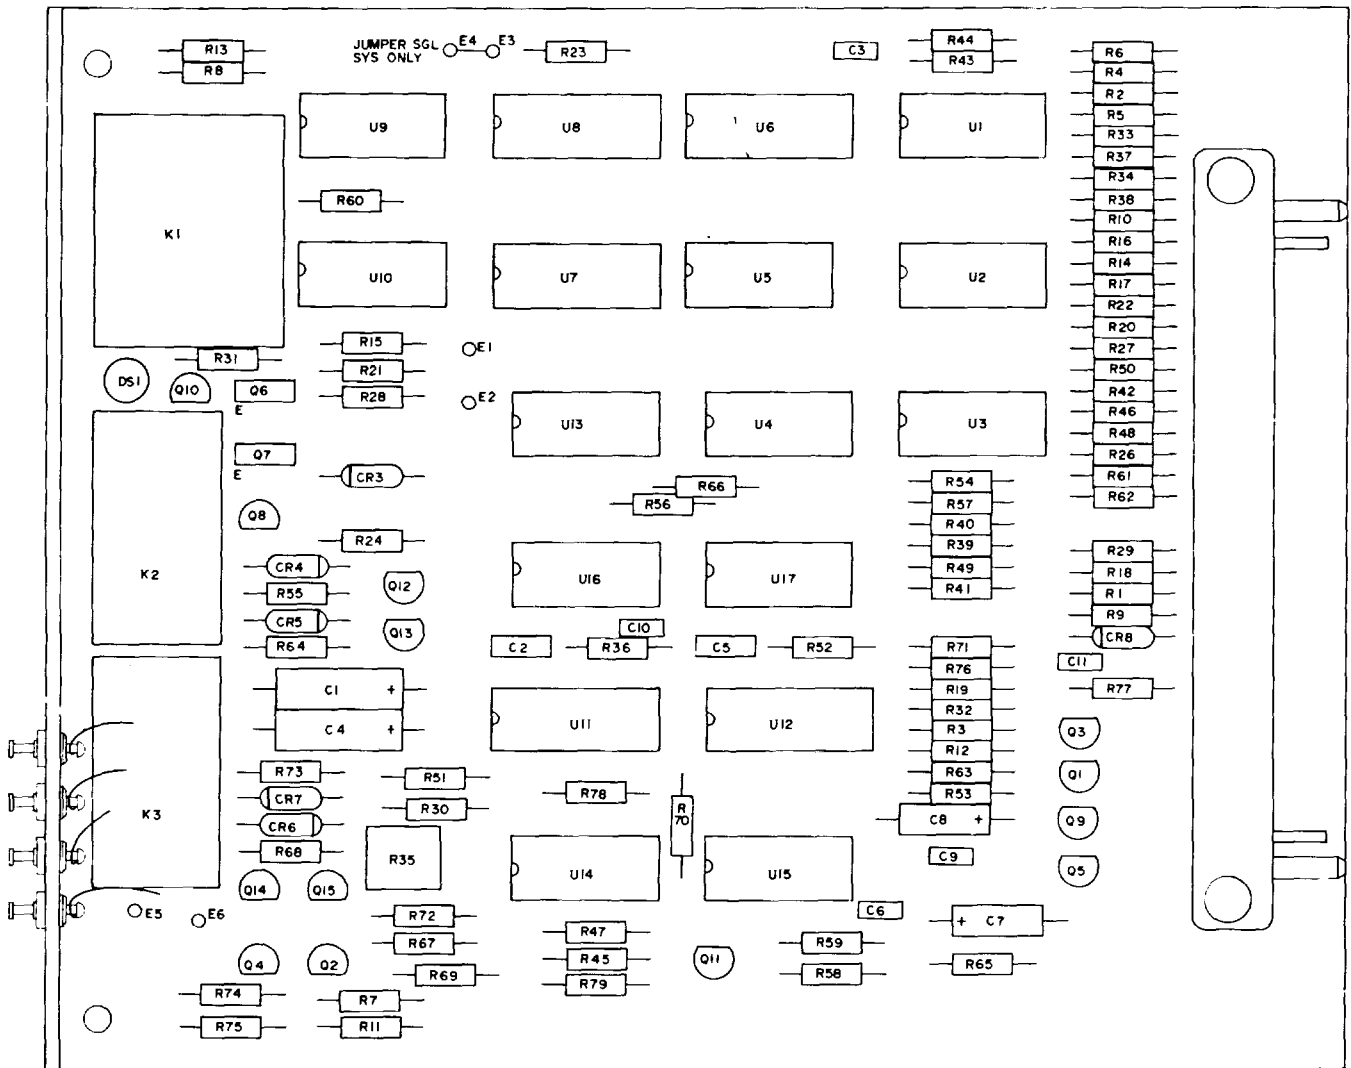

Figure 4-3. Alarm and Transfer Circuit Card Assembly, 1A2A2
c. Alarm and Transfer Circuit Card Assembly (1A2A2) Disassembly. This circuit card assembly should be removed only when servicing or component replacement is required. To remove this circuit card assembly, grasp both edges of the card and pull up. Further disassembly should be limited to removal of parts for repair or replacement. Refer to figure 4-3 for location of component to be replaced.